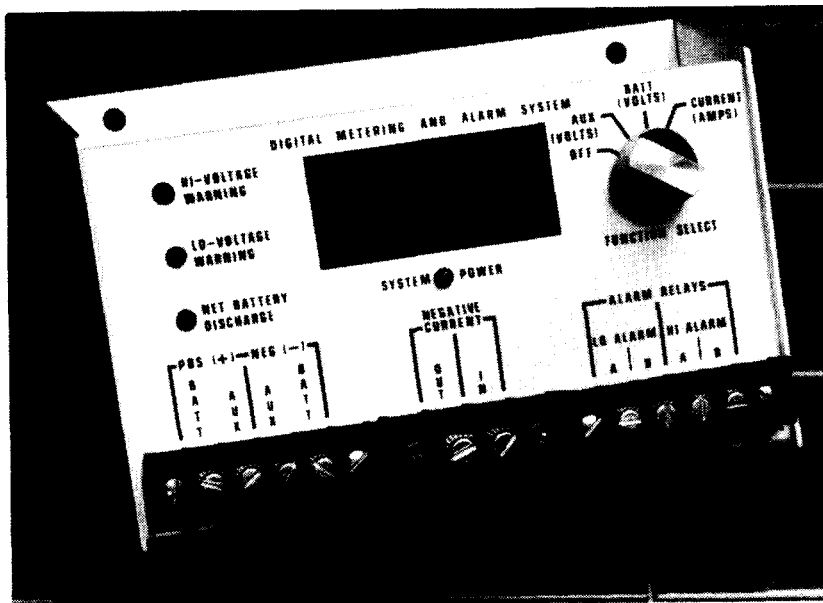

FIGURE 2-71
- 2.5.6 Independent Monitoring Systems. Meters and LEDs reporting on the status of various system components and functions can prevent damage to the system components. They also allow the user to make more effective use of the available photovoltaic electricity (Figure 2-71).